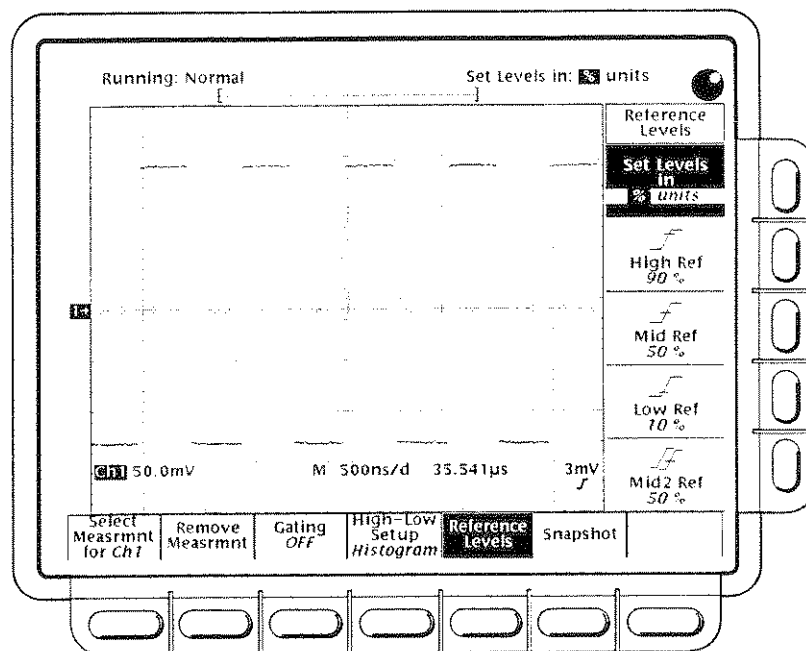

Figure 3-36: Measure Menu—Reference Levels
1. Press **MEASURE** → **Reference Levels** (main) → **Set Levels** (side) to choose whether the References are set in % relative to High (100%) and Low (0%) or set explicitly in the units of the selected waveform (typically volts). See Figure 3-36. Use the general purpose knob to enter the values.